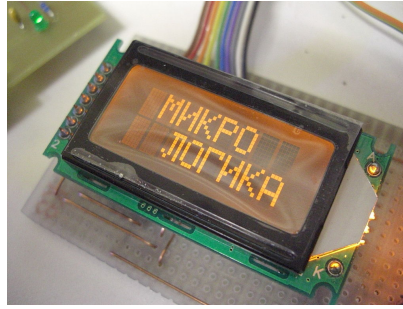

Figure 1: Example of HD44780-based display
6. Most low-cost applications will use an LCD controlled by a Hitachi HD44780U (or similar), as shown in fig. 1. Propose a finite state machine implementing the LCD interface, especially the initialization, with the 500Hz clock. You can assume it exists a `int_to_lcd` function converting an integer (between 0 and 9) into LCD compatible data and outputs ":" otherwise. *This question is extra hard and requires access to the documentation of the HD44780. We suggest you begin with schematics and diagrams before writing the VHDL implementation.*